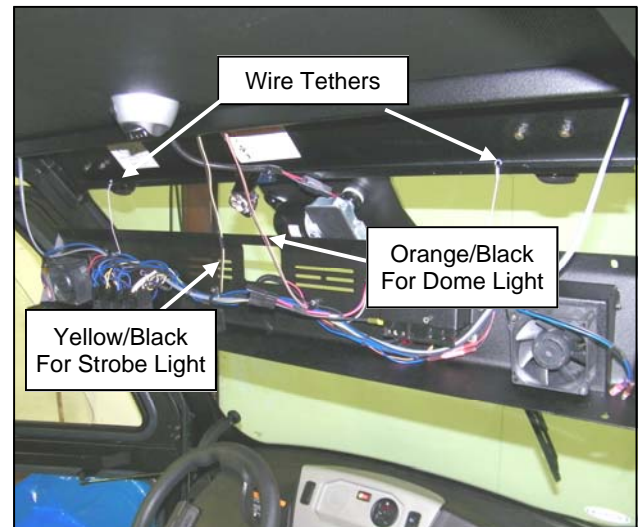

Fig. 1.4 (Disconnect Overhead Console)
- 1.4** Remove the interior mirror (if present) from its mount, then remove the four 1/4-20 screws from the corners of the overhead console. Allow the console to hang from the windshield support via the wire tethers in the console. Figure 1.4.